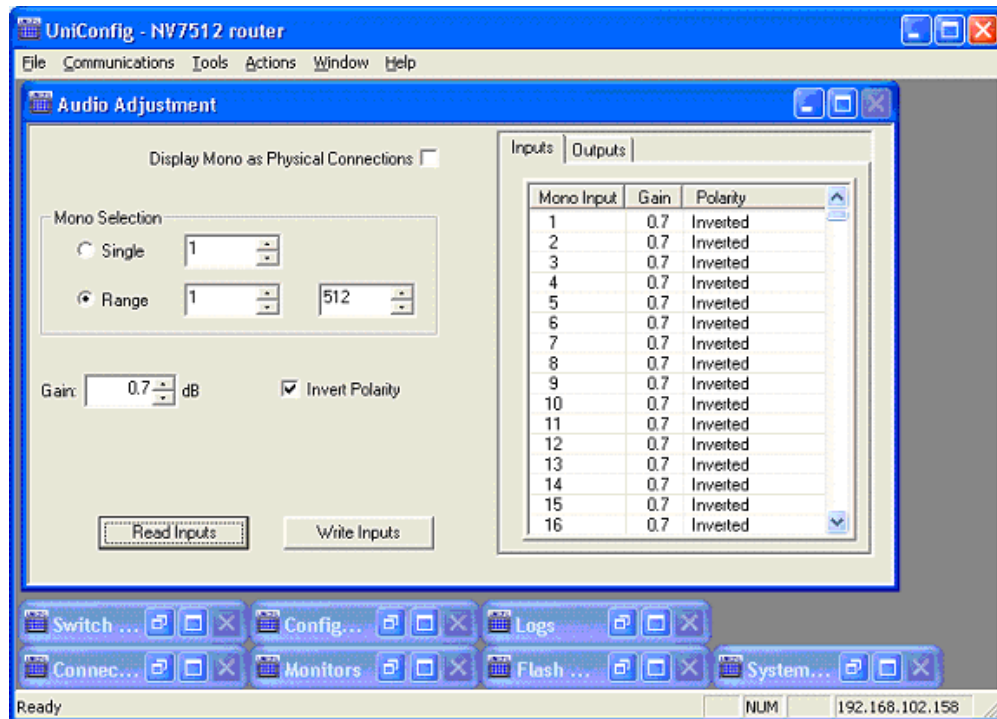

Figure 3-6. UniConfig Audio Adjustment Window
- From the menu bar, select 'Window > Audio Adjustment'. The 'Audio Adjustment' window appears, as shown in Figure 3-6 on page 82.
- (Optional) To display each left or right channel of a stereo signal, check the 'Display Mono as Physical Connections' check box, as shown in Figure 3-6.